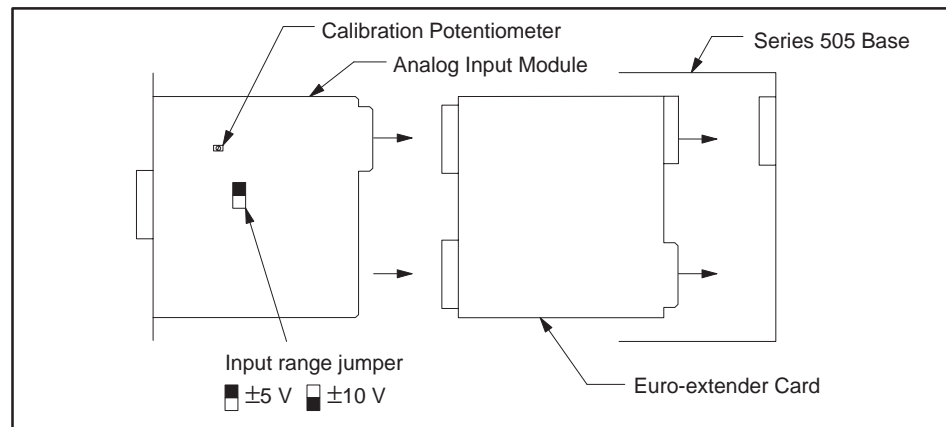

Figure 3-2 Euro-extender Card Assembly for Analog Input
Insert the module into the extender card (Figure 3-2). This provides access to the calibration potentiometer and input range select jumper.
Select voltage input range as shown in Figure 3-2.
8. Locate the calibration potentiometer on the circuit board (Figure 3-2). Turn the screw with a non-metallic screwdriver until the programming screen shows all addresses at an average of +32000.